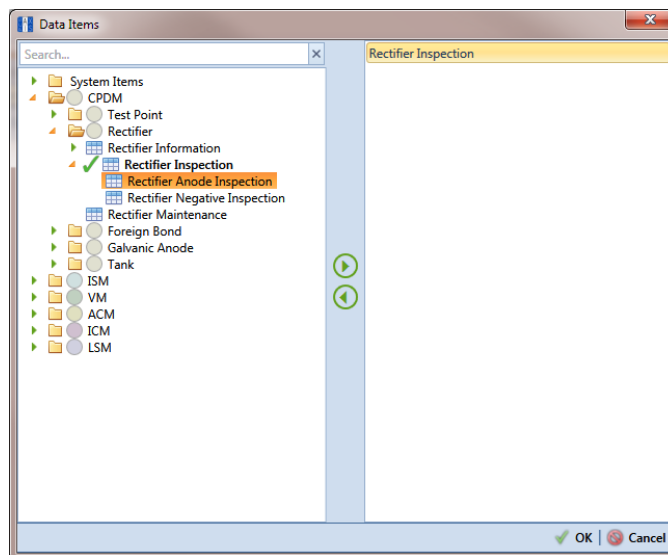

Figure 9-7. Data Items
- 8 Choose the data item(s) you want to import in PCS Axis. Click **Add Data Item** to open the *Data Items* window and then complete the following steps (Figure 9-7, page 394):